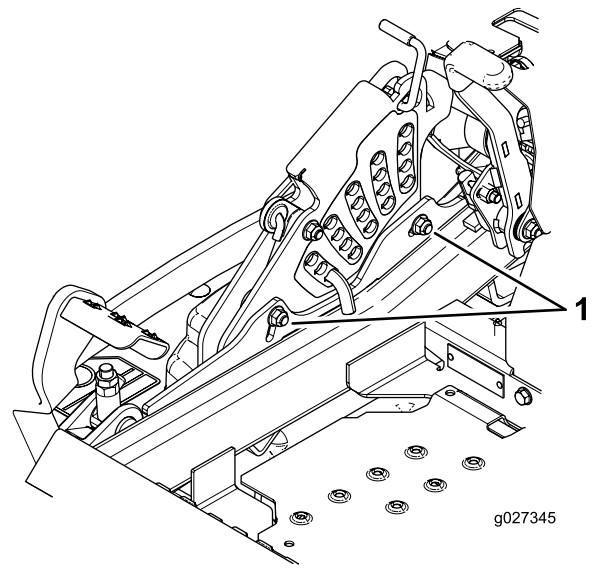

Figure 87
10. To adjust the single-point system, loosen the 2 bolts at the bottom of the height-of-cut plate (Figure 87).
11. Tighten the 2 bolts at the bottom of the height-of-cut plate (Figure 87).